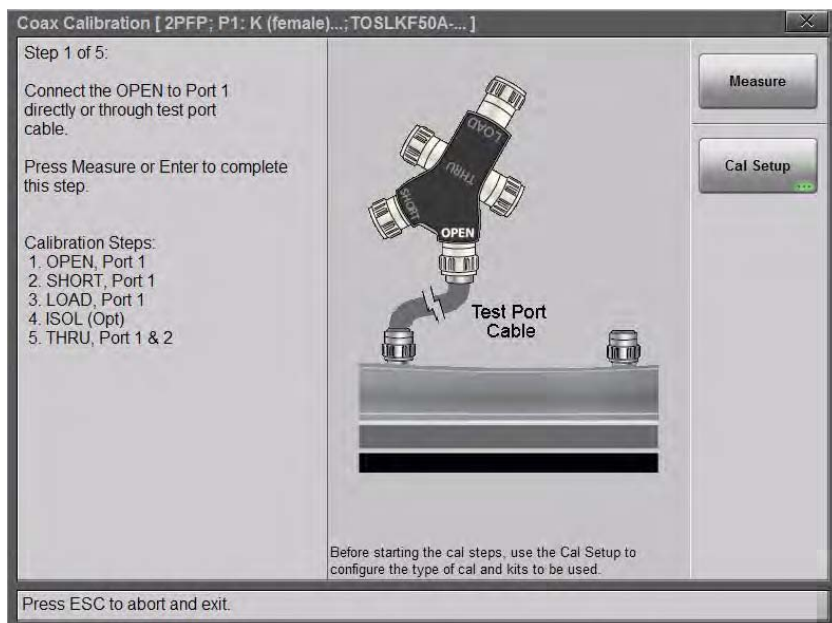

Figure 5-10. Calibration Dialog Box for Coax
4. Press Measure and follow the on screen instructions (see Figure 5-10 on page 5-16).
Figure 5-10 shows the Calibration dialog box showing calibration setup and calibration steps. On-screen instructions are given for each step.